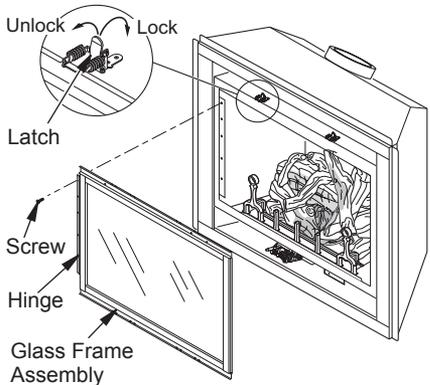

Figure 41 - Removing/Replacing Glass Door
2. Lift up on latches to unlock. There are two on top of firebox and two below firebox that hold glass door in place (see Figure 41).
3. While holding glass door to prevent it from falling and causing injury, remove five screws from hinge located on left side of door frame assembly (see Figure 41).
5. Close glass door frame. Lock latches by placing bar under tab on door and pushing down and back on latch (see Figure 41).